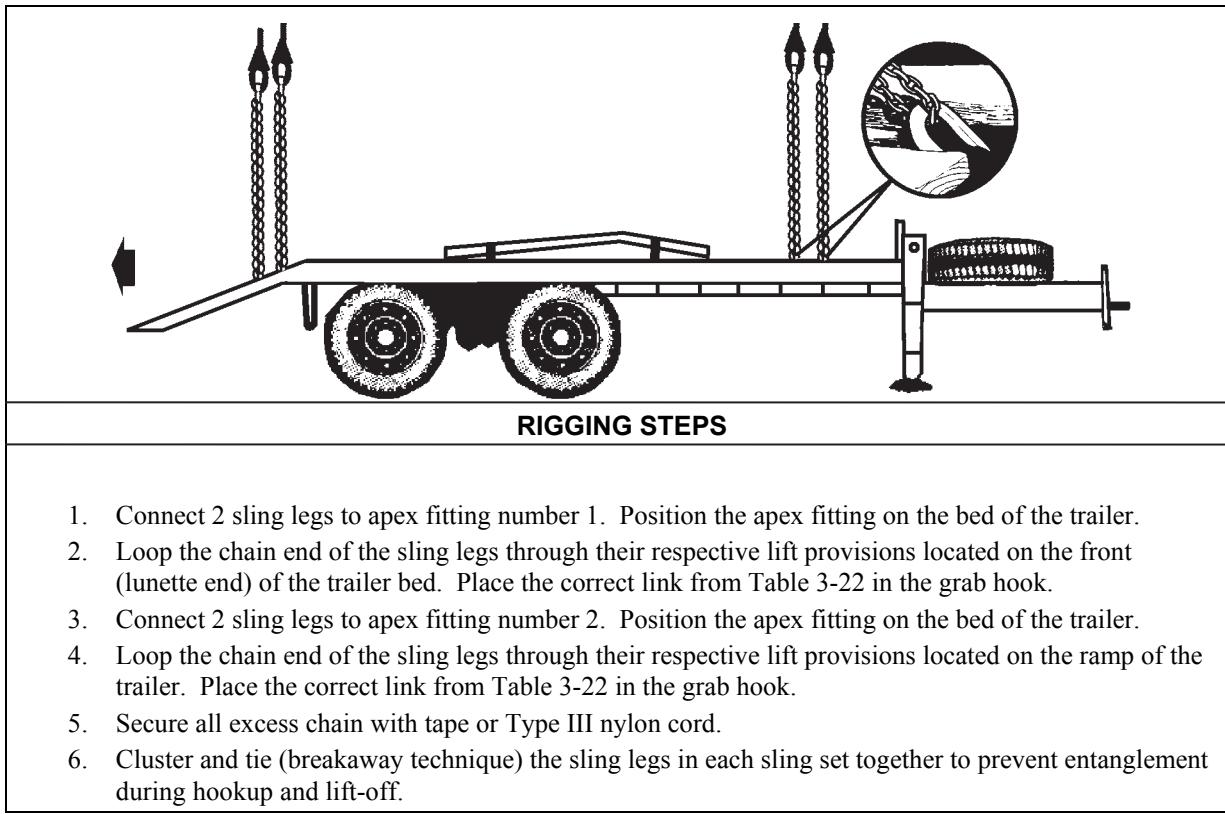

Figure 3-22. Small Emplacement Excavator Transporter
- **Rigging.** Rig the load according to the steps in Figure 3-22.